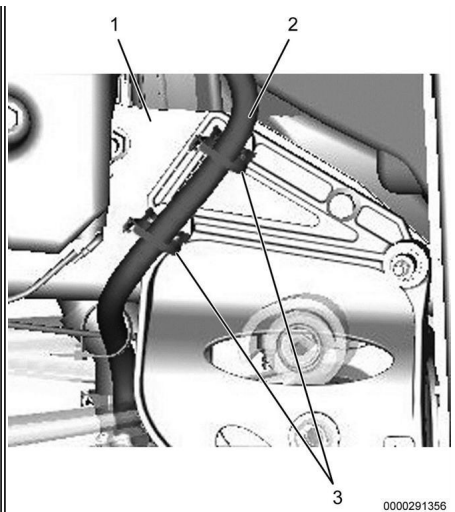

Figure 19: Frame Mounted Heater Hose Routing.
11. Using two 3948245C1 spin huck saddles and four tie straps (Figure 19, Item 3), secure heater hose (Figure 19, Item 2) to frame (Figure 19, Item 1).